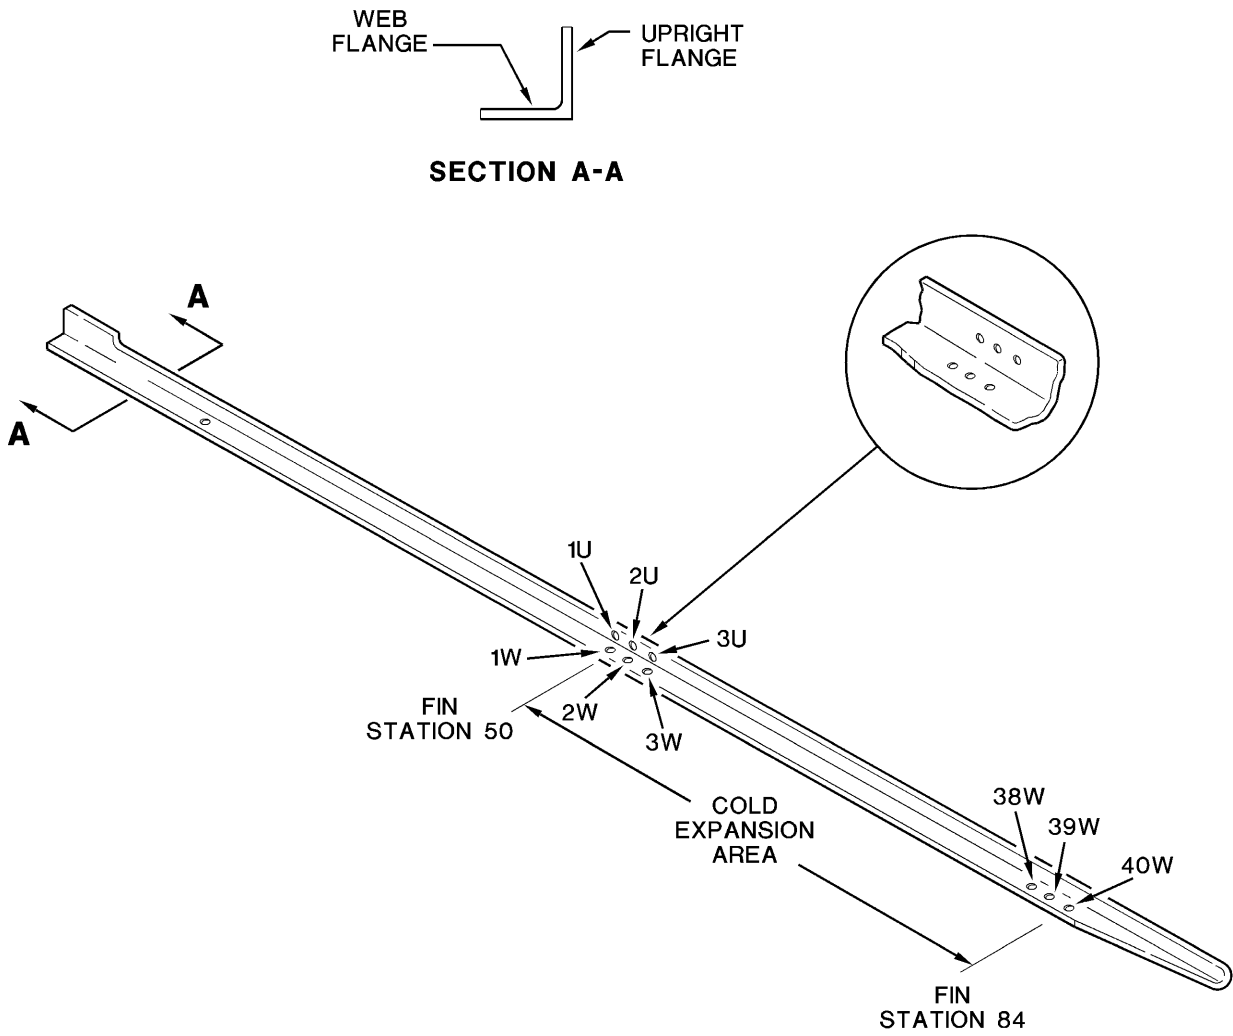

Figure 8
1. Column 1, "Fastener Location", identifies all fasteners in the cold expansion area starting at Fin Sta. 50. The fasteners on the upright leg are numbered 1u to Xu (generally 33 fasteners). The fasteners on the web leg of the spar cap are numbered 1w to Xw (generally 40 fasteners). Refer to figure 8.